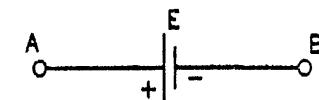

FIG. 1.63 : DETERMINATION OF SIGN FOR EMF
- Consider a branch AB containing a source of e.m.f. (E) as shown in Fig. 1.63